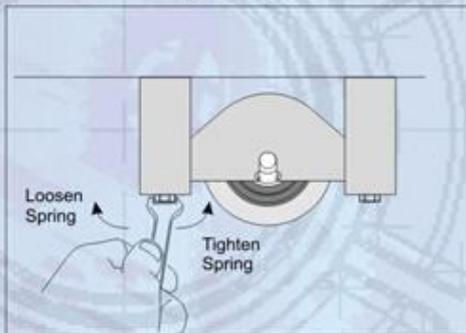

fig 2
- To adjust **Load Springs**, turn **Adjusting Bolts** in direction required (refer fig 2).